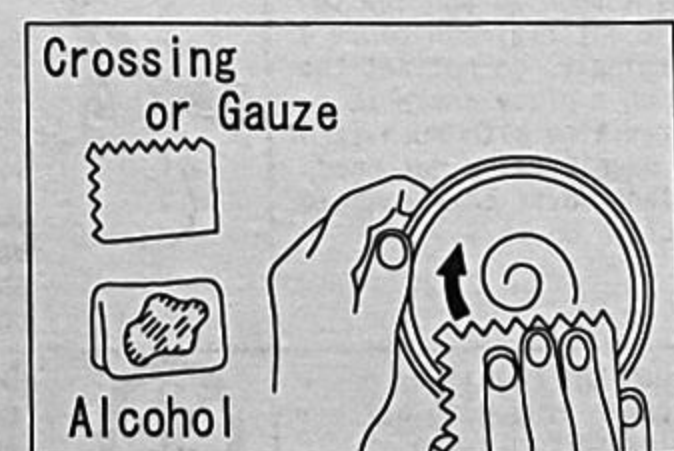

Fig.7
- If the lens becomes dirty, wipe its surface lightly with the attached wiping cloth or another soft cloth such as gauze, as if you draw circles on it (Fig.7)